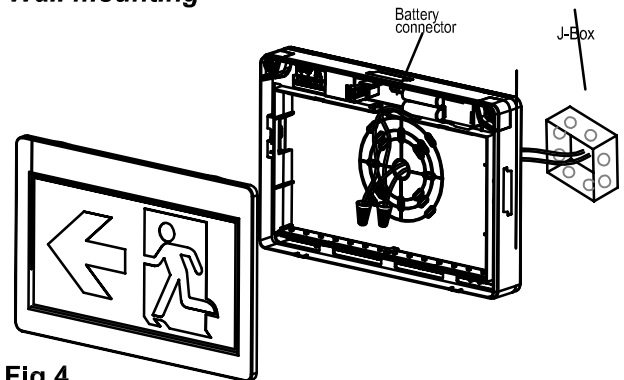

Fig 4
2. Knockout appropriate mount screw hole and cable hole, mount back plate on the wall after feed building AC supply cable into back plate (see Fig 4).
3. For ceiling and side mounting purpose, remove the mounting hole cover on the top or side of the unit (see Fig 4,5,6), assemble the canopy on the unit (see Fig 2).